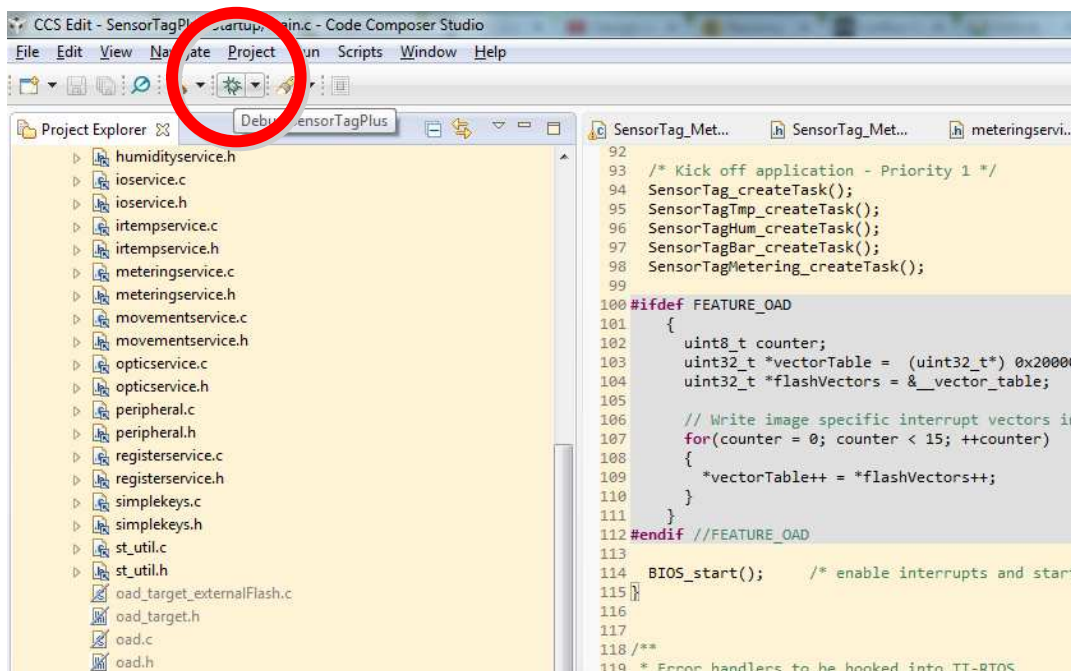

Figure 13. Debug Button
4. Select the "SensorTag" project that contains all of the additions and changes made for the *Bluetooth* LE meter reading application. Click on the debug button (see Figure 13) and wait for the firmware code to download completely.